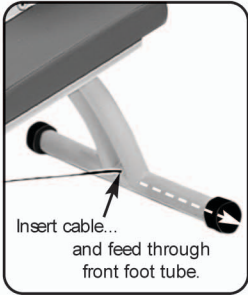

Fig. 5
10. Insert the cable into the hole of the front foot tube and out through the end where the rubber foot was removed. (Fig. 5)